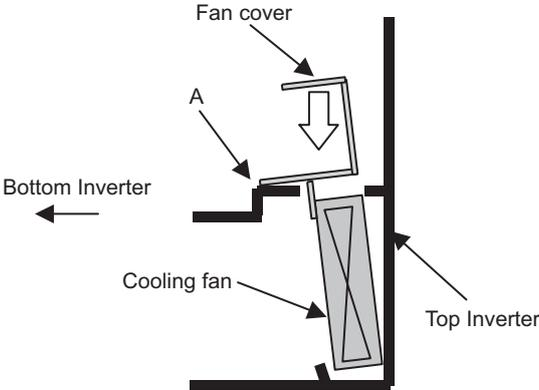

Fig 8.3
- 1. Tilt the fan cover toward the bottom of the Inverter as shown in Fig 8.3 and insert it to the mounting hole until it meets with A.